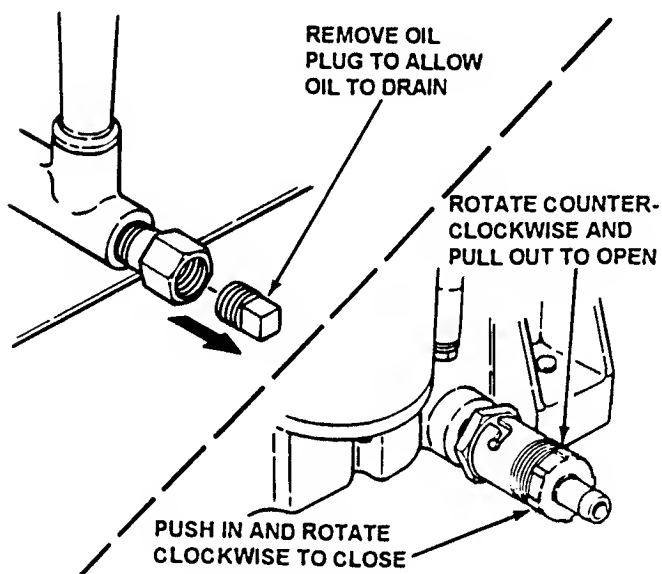

FIGURE 3.1
- d. Place a 2 quart minimum capacity container under the end of the oil drain. Open oil drain. See Figure 3.1 for oil drains used on the Rear Engine Riders.
- e. After all the oil has drained, close the drain and wipe up any oil that may have spilled. See Figure 3.1.